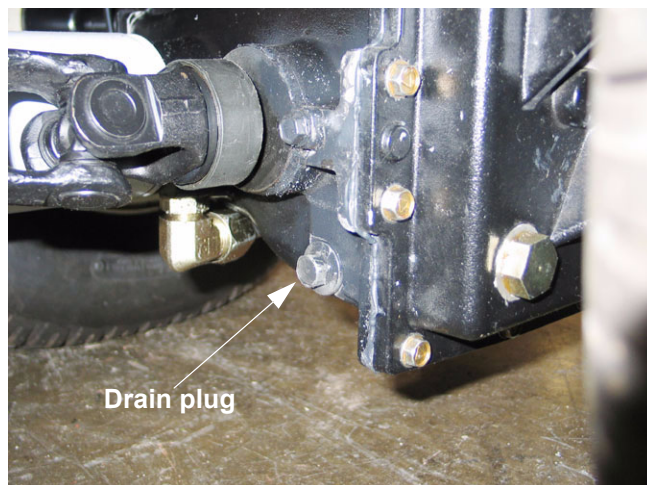

Figure 1.4
- 1.4. Place a clean drain pan under the front of the transmission housing. Remove the drain plug using a 5/8" wrench. See Figure 1.4.